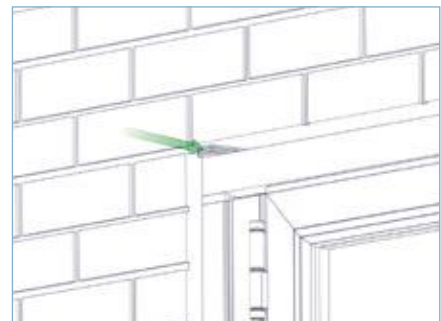

FIG 4C
► **4.7.** Install the outer frame and insert frame packers above the top track at each end, compressing tracks, jambs and cill (if fitted), together closing all unwanted gaps and temporarily holding the frame in position as shown in FIG 4C.